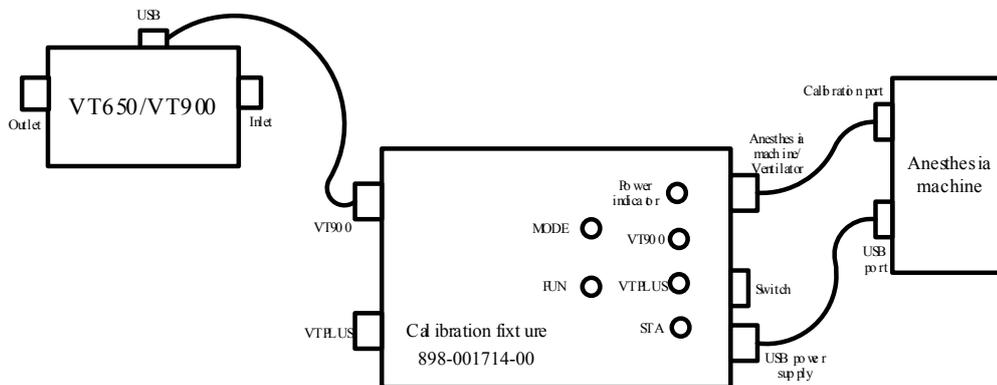
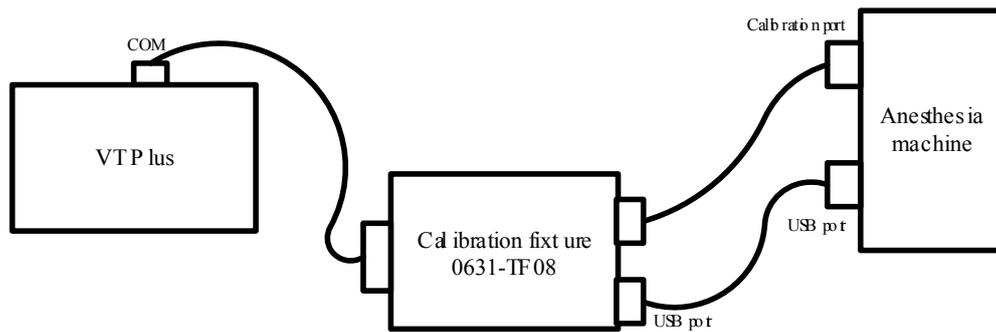

Figure 1 Calibration communication connection of VT900
Figure 2 Calibration communication connection of VT Plus
In pressure calibration (service), the anesthesia machine calibration device (for example, VT900, VT650, PF300, and FPM) specified by the manufacturer needs to be used to calibrate the PEEP valve, Paw sensor, and PEEP pressure sensor. The calibration principles are as follows: The anesthesia machine calibration device can communicate with the VCM, which controls the tight closing of the inspiratory valve. The VCM opens the PEEP valve based on a certain DA value to make the circuit pressure reach a certain value. The Paw sensor, PEEP pressure sensor, and anesthesia machine calibration device collect the circuit pressure. The calibration device sends the collected pressure to the VCM. The VCM uses the pressure measured by the calibration device and AD values collected by the pressure sensors as the data of one calibration point for the pressure sensors, and uses the pressure measured by the calibration device and DA value of the PEEP valve as the data of one calibration point for the PEEP valve. The VCM controls the PEEP valve to change the DA value to obtain calibration data under a series of pressures, forming a pressure calibration data table. The gas pressure should be in the range from 0 cmH2O to 100 cmH2O when the VCM opens the PEEP valve. Figure 1 Schematic diagram of pressure calibration (service)
- ✧ **Calibration communication connection:** If VT900 is used for calibration, connect the UBS port of VT900 to the calibration port of the anesthesia machine through a calibration fixture according to Figure 1; or replace VT900 with VT Plus for calibration as shown in Figure 1; or use VT Plus for calibration as shown in Figure 2.
- ✧ Connect the communication cable as shown in Figure 1 and turn on the calibration fixture. You can switch the calibration device to VT Plus or VT900 through **MODE** on the calibration fixture. When the calibration device is switched to VT Plus or VT900, the corresponding indicator is steady on. When the calibration device is switched to VT900, set the system to the low pressure measurement mode, press **FUN** and switch to **Remote Control**.